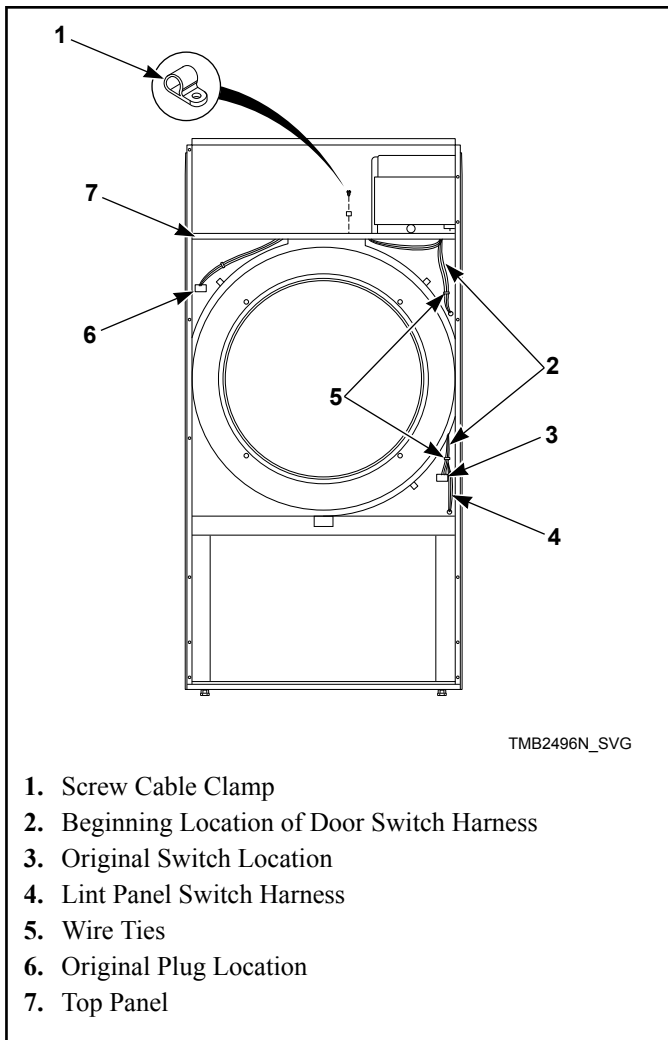

Figure 12
7. Cut wire ties to remove door switch harness bundle. Be careful not to damage harness wires. Refer to *Figure 12*.